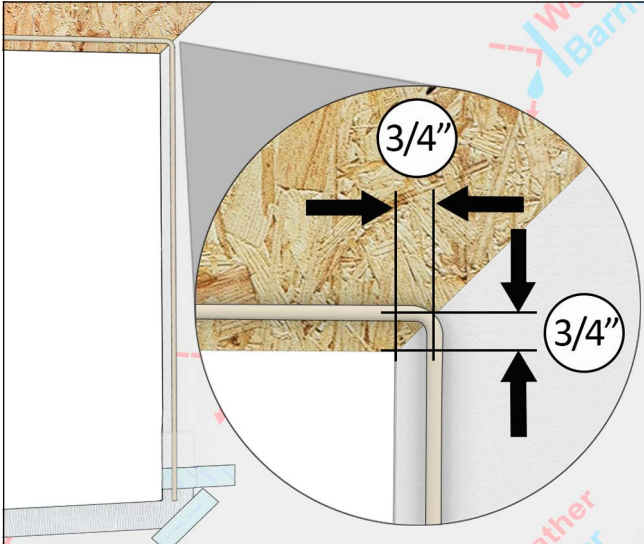

Figure 5
3. Starting 3/4" from the side, apply 1/4" to 3/8" bead of sealant. Do not apply sealant across the RO bottom. See Figure 5.